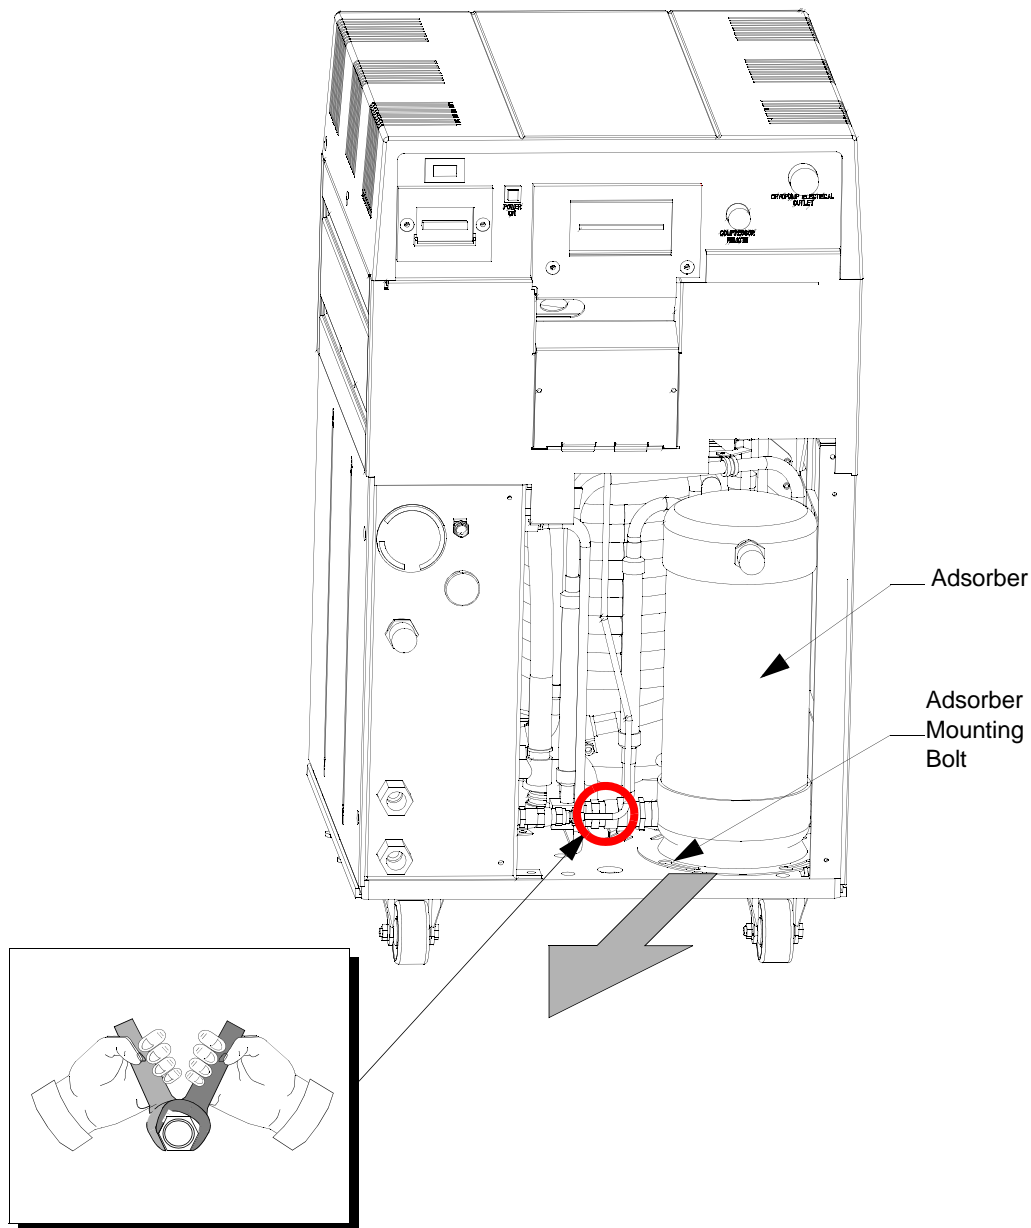

Figure 6-2: Adsorber Location in the 9700A Compressor (Rear Panel Removed)
4. Using a 7/16 in. (11mm) wrench, remove the adsorber mounting bolt as shown in Figure 6-2.
10. Record the adsorber replacement date on the label as shown in Figure 6-2, and also note that the next adsorber replacement should be performed every three years.